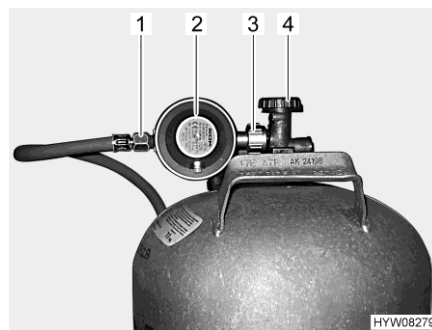

Fig. 69 Gas bottle connection
- Close the regulator tap (Fig. 69,4) on the gas bottle. Pay attention to the direction of the arrow.
- Hold the gas pressure regulator (Fig. 69,2) and open the knurled nut (Fig. 69,3) (normally a left-hand thread).
- Remove the gas pressure regulator and the gas tube (Fig. 69,1) from the gas bottle.
- Position the gas pressure regulator (Fig. 69,2) with gas tube (Fig. 69,1) on the gas bottle and tighten the knurled nut (Fig. 69,3) (normally a left-hand thread). **Do not** tighten too firmly.